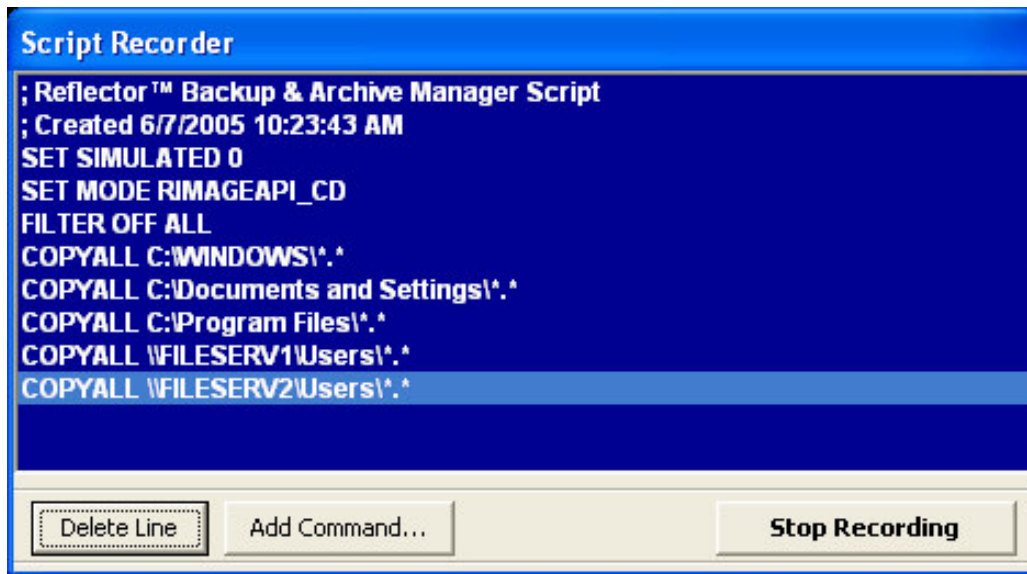

Figure 7: Recording a Script
- A Script Recorder window appears, as shown in Figure 7. As you select files and folders, and specify filters, the details are recorded in the script.